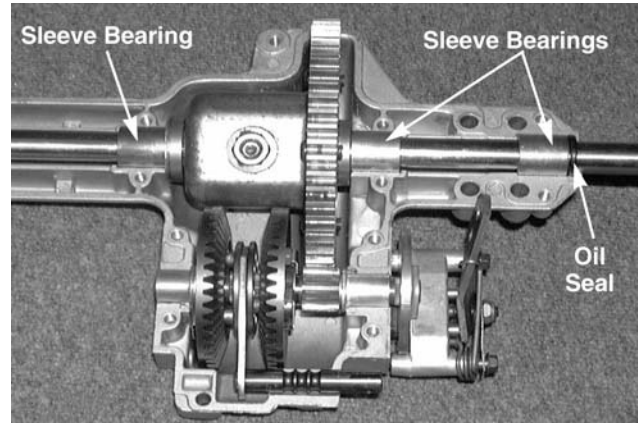

Figure 8-68.
25. Place the differential assembly into the lower transmission housing. See Figure 8-68.